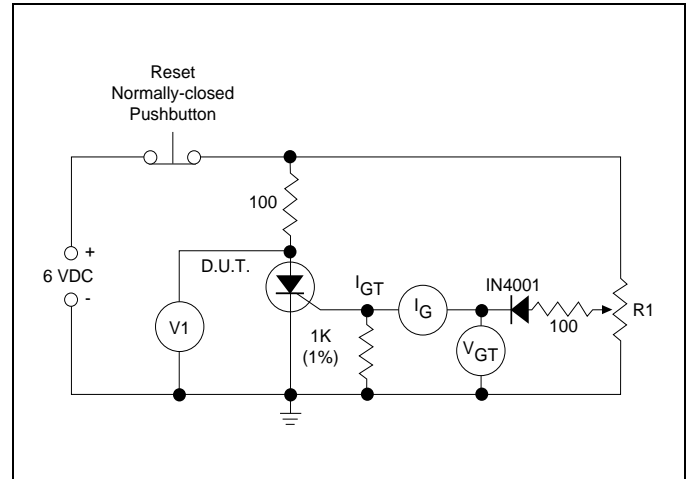

Figure 5.19 Simple Test Circuit For Gate Trigger Voltage and Current Measurement
- (10) Test condition is maximum rated RMS current except TO-92 devices are 1.2A $_{PK}$; T106/T107 devices are 4A $_{PK}$.
- (11) $V_D = 6VDC$, $R_L = 100\Omega$. See Figure 5.19 for simple test circuit for measuring gate trigger voltage and gate trigger current.